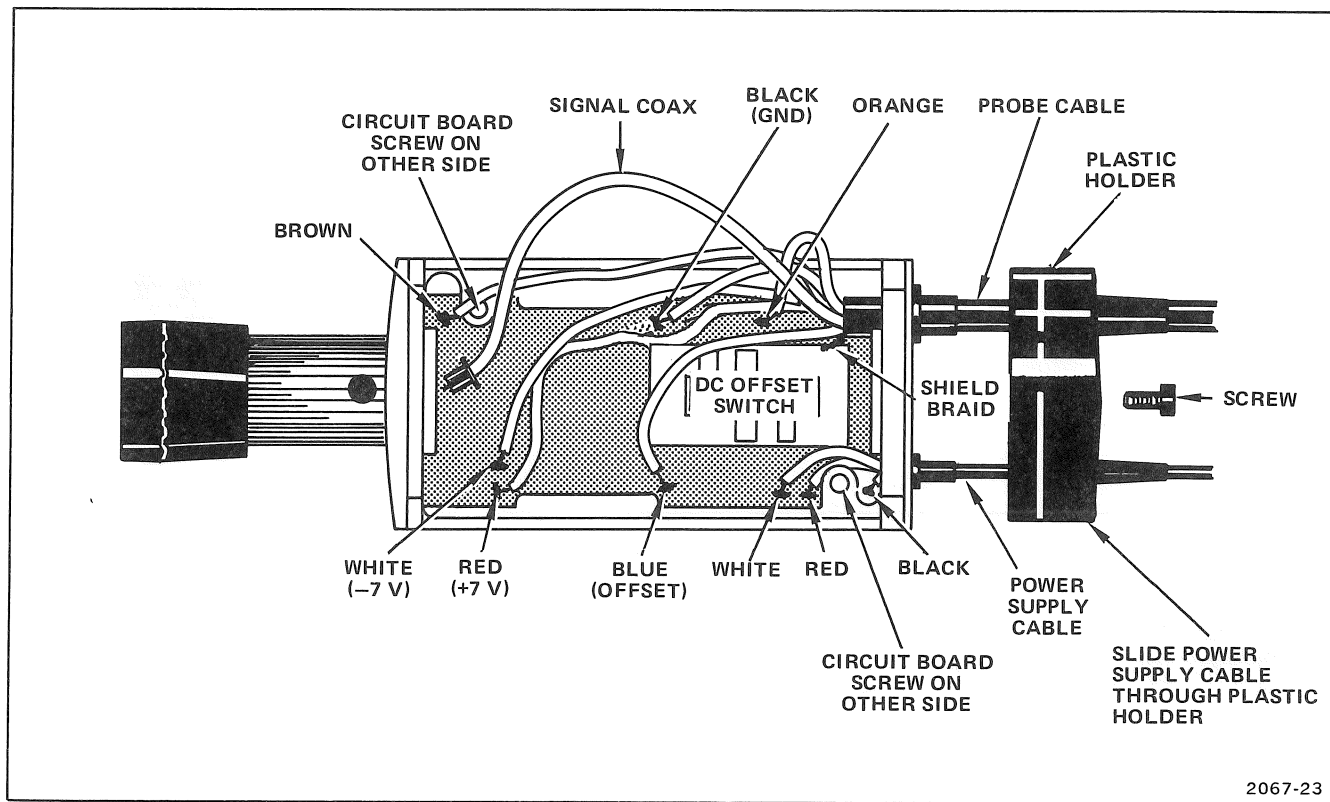

Figure 5-3. Probe control body.
2. Grasp the blue signal coax, near the output BNC, with a pair of long-nose pliers (see Fig. 5-3). Pull the coax out of the connector. This may be easier if you slightly loosen the two screws holding the probe control body circuit board. Don't forget to tighten them curing reassembly.
3. Unsolder the six probe cable wires from the probe control body circuit board (see Fig. 5-3).
4. Remove the phillips screw from the plastic holder on the cable end of the probe control body (see Fig. 5-3). Slide the plastic holder away from the probe control body.
8. Slide the power supply cable through the plastic holder (see Fig. 5-3).
2. Remove the screw from the cable end of the probe control body (see Fig. 5-3).
2. Disconnect the blue signal coax from near the output BNC connector.(see Fig. 5-3).
3. Unsolder all wires from probe control body circuit board (see Fig. 5-3).
2. Unplug the blue signal coax from near the output BNC connector (see Fig. 5-3).